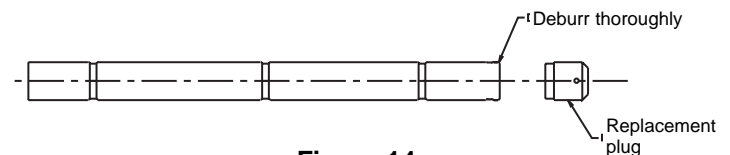

Figure 14
c. Cut inner conductor at marked position using miter box and hacksaw. Remove burrs from inside and outside of conductor, Figure 14.